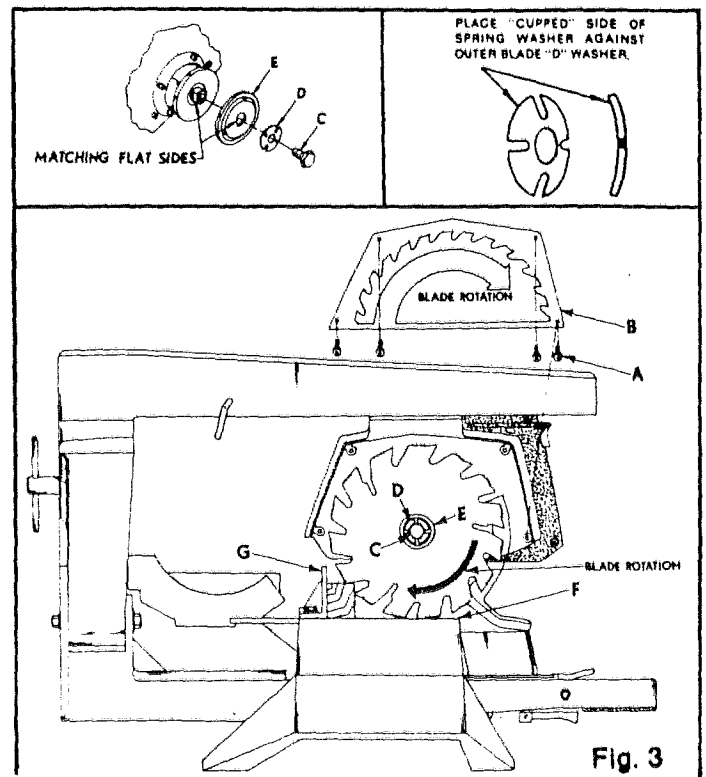
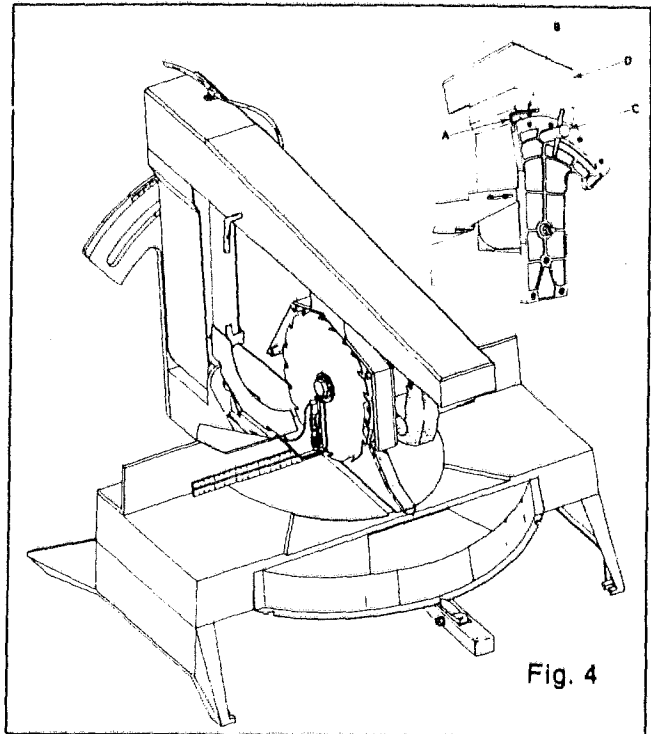

Fig. 3
Fig. 4
- Place saw head in the position shown in Fig. 3. Remove four screws (A) and blade cover (B).
- Remove blade screw (C), spring washer (D), and outer blade washer (E) from the spindle. **NOTE: THE BLADE SCREW HAS LEFT-HAND THREADS.**
- REPLACE THE OUTER BLADE WASHER MATCHING FLAT SIDE OF "D" HOLE OF WASHER WITH FLAT SIDE OF SPINDLE. SEE FIG. 3. REPLACE SPRING WASHER AND BLADE SCREW AND TIGHTEN FINGER TIGHT. NOTE: THE BLADE SCREW HAS LEFT-HAND THREADS. CAUTION: "D" HOLE IN THE OUTER BLADE WASHER MUST BE ALIGNED WITH AND ENGAGED ON THE FLAT SIDE OF THE SPINDLE TO PREVENT THE BLADE FROM COMING OFF THE SPINDLE.**
- With a soft wood block seated on the turntable (F) and in front of the fence (G), move the saw head until the blade teeth embed in the block and hold securely. With the wrench furnished, hand tighten the blade screw until no further tightening can be accomplished.
1. Place saw head in position shown in Fig. 4.
2. Place square firmly against table as shown and check blade squareness. If blade is square with table check pointer (A) for 0° setting, adjust pointer if needed by loosening screw (B), locate pointer on 0°, and tighten screw. If blade is not square with table proceed as follows:
3. Loosen lock screw (C) slightly in order to pivot saw arm (D).
6. Reassemble blade cover and four screws as shown in Fig. 3. It is not necessary to remove blade cover for any further checks or adjustments. **COVER SHOULD ALWAYS BE IN PLACE DURING SAW OPERATION.**
CAUTION: BEFORE MAKING FURTHER CHECKS OR ADJUSTMENTS CONNECT MITER SAW TO POWER SUPPLY AND MOMENTARILY ENGAGE SWITCH TO CHECK FOR CORRECT DIRECTIONAL ROTATION OF BLADE. SEE FIG. 3. IF INCORRECT ROTATION IS DISCOVERED, DO NOT USE THIS SAW. RETURN IT TO YOUR NEAREST SEARS RETAIL STORE.